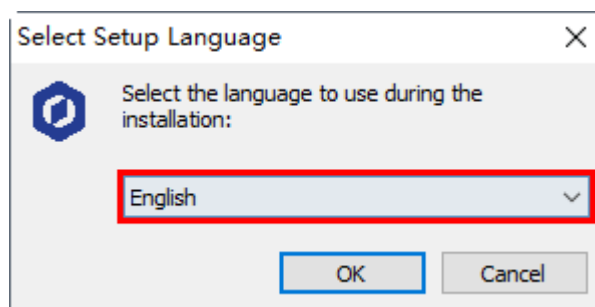

Figure 2.5 Select English
Step 3 Choose a setup language such as **English**, as shown in Figure 2.5. You can also select **Chinese** if needed.